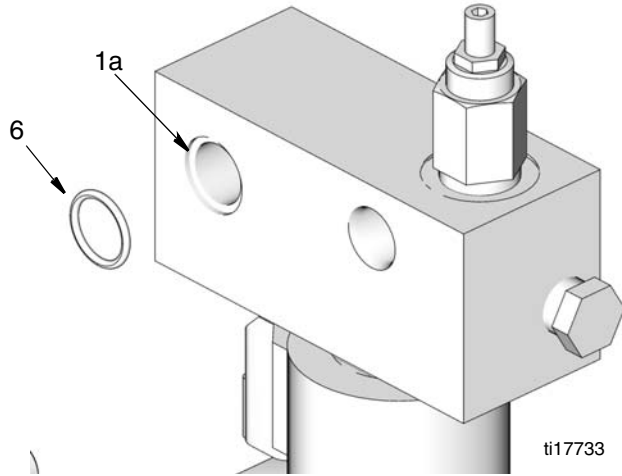

FIG. 4
- Grease o-ring (6) and install in block opening (1a) as shown in FIG. 4.